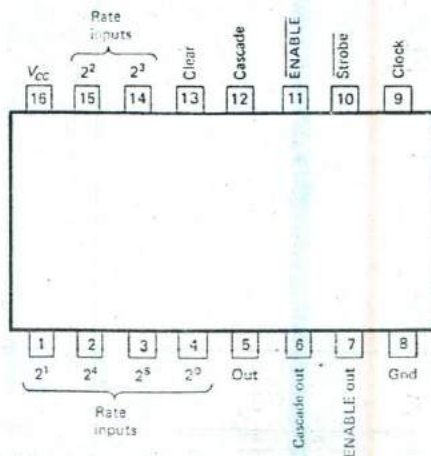

Fig. 11-42 7497 binary rate multiplier.
Rate multipliers represent another approach to binary arithmetic. They are circuits that take one input pulse frequency and provide two output frequencies. One of the output frequencies is programmable. Rate multipliers can be used to control hydraulic and pneumatic valve actuation rates in industrial applications, and they may also be used to control stepper motor velocities. Figure 11-42 shows the pinout for a 7497 binary rate multiplier. It will provide from 0 to 63 output pulses on pin 5 for every 64 clock pulses applied to pin 9. With strobe, clear, and enable grounded, the enable output will provide 1 pulse for every 64 input clock pulses. The enable output is also called the *base rate output* and is fixed. The other output is variable and is at 0, 1, 2, 3, 4, 5, etc., times the base rate, giving it the name *rate multiplier*.
39. Refer to Fig. 11-42. The word applied to the rate inputs is 010111_2 , and the clock input is 640 Hz. The strobe, clear, and enable pins are low. What is the base rate output at pin 7? What is the rate output at pin 5?